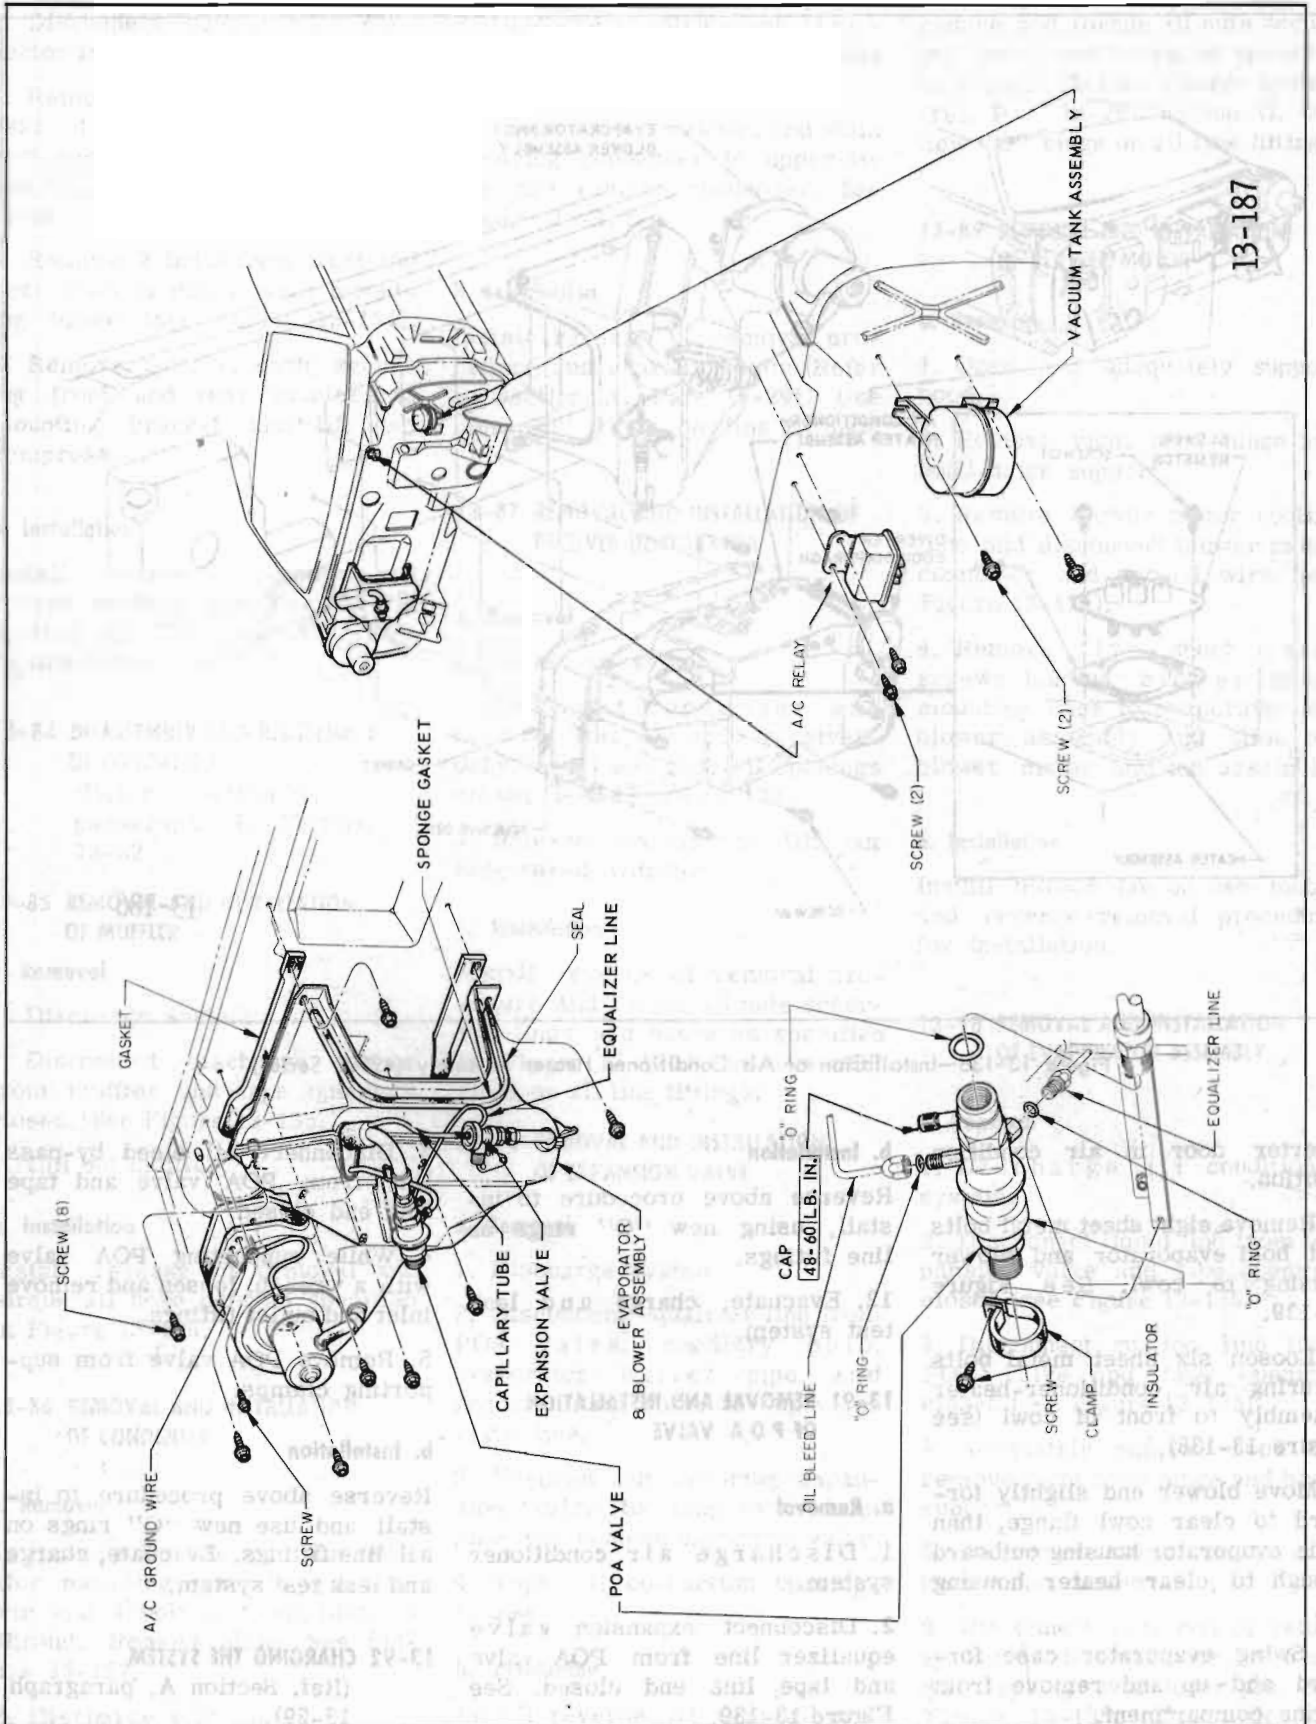

Figure 13-139—Installation of Evaporator Assembly & POA Valve (49000 Series)
7. Remove eight sheet metal bolts that hold evaporator and blower housing to cowl. See Figure 13-139.
2. Disconnect expansion valve equalizer line from POA valve and tape line end closed. See Figure 13-139.